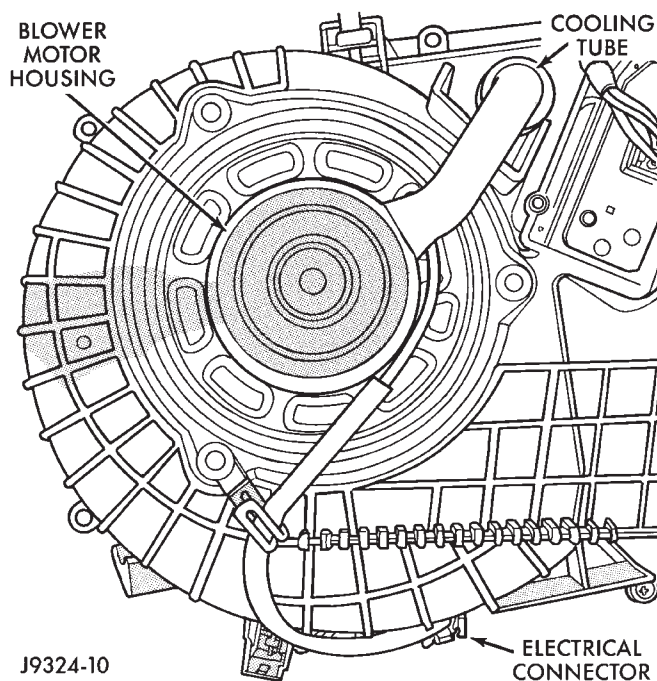

Fig. 45 Blower Motor Remove/Install
- (1) Disconnect and isolate the battery negative cable.
- (2) Disconnect the blower motor cooling tube from the nipple on the blower motor housing (Fig. 45).
- (3) Disengage the blower motor wire harness from the wire harness retainer.
- (4) Unplug the blower motor wire harness connector from the heater-A/C housing wire harness.
- (5) Remove the three screws that secure the blower motor and blower wheel assembly to the heater-A/C housing.
- (6) Lower the blower motor and wheel from the heater-A/C housing.